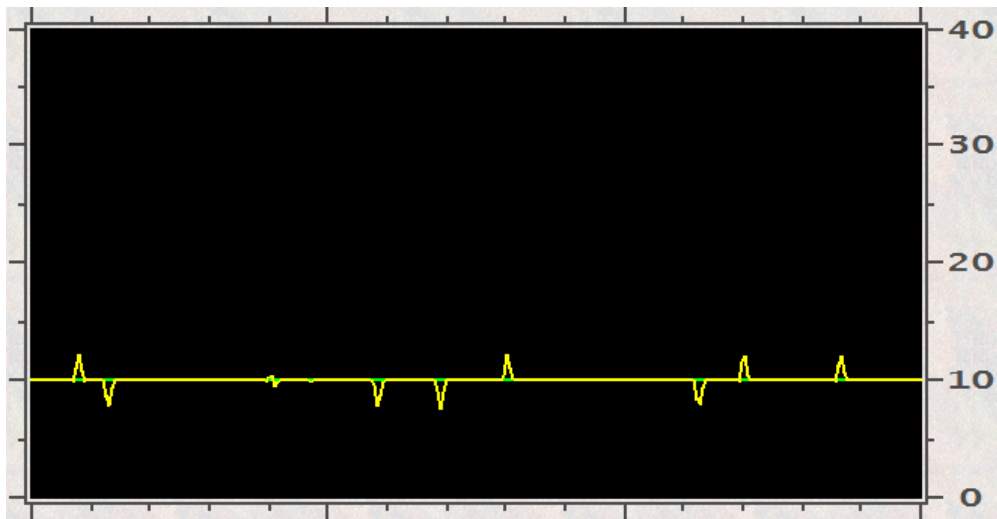

Figure 1 – Ideal Doppler Sensitivity
- 4.3.3. Adjust **P4** and **P5** to get a waveform as shown in **Figure 1**. Ticks above and below baseline must be evenly balanced.